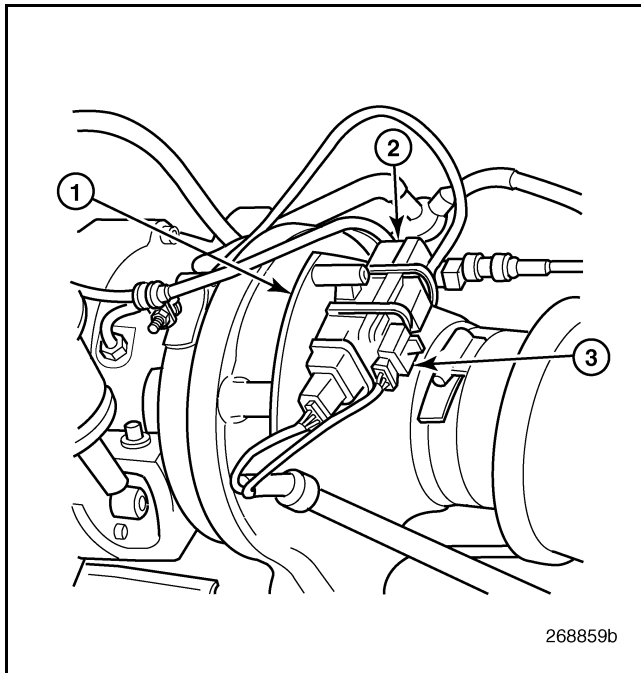

Figure 538 — Wheel Speed Sensor Connector
1. Cut the two tie straps that attach the turbocharger wheel speed sensor harness connector to the front of the vane position sensor module at the front of the turbocharger compressor housing (Figure 538). Note the way the position sensor and wheel speed sensor wires are routed, and also note the orientation of the harness clamp.